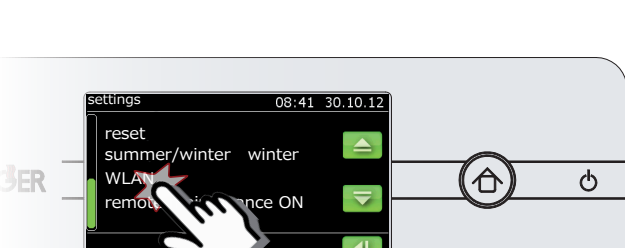

Fig. 33
1. Select Settings --> WLAN in the main menu (Fig. 33).
5. Select Settings --> WLAN in the main menu (Fig. 33).